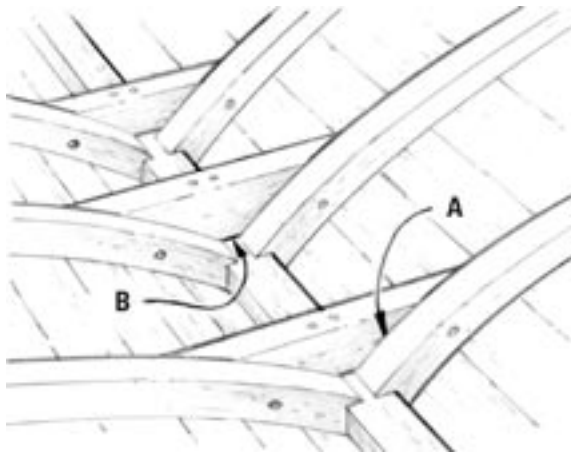

Figure 5-9 Inspect the floors, keel and frames for gaps or signs of movement.
- A. Inspect the area where the floors attach to the frames. Look for signs of movement between the floors and the frames (*Figure 5-9*).